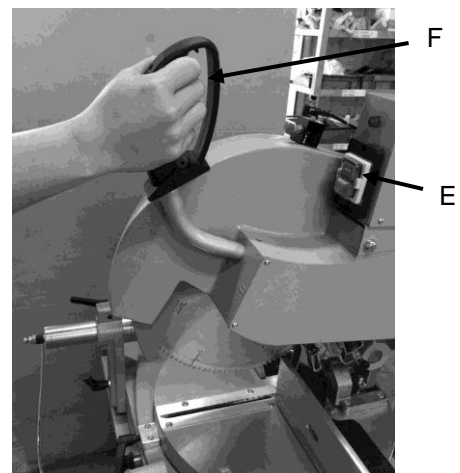

Fig 7
3. Push green button of main switch E (Fig 7).
4. Use the handle F (Fig 7) to lower the blade until it comes into contact with the material to be cut, then push grad gradually until you have completed the desired cut.